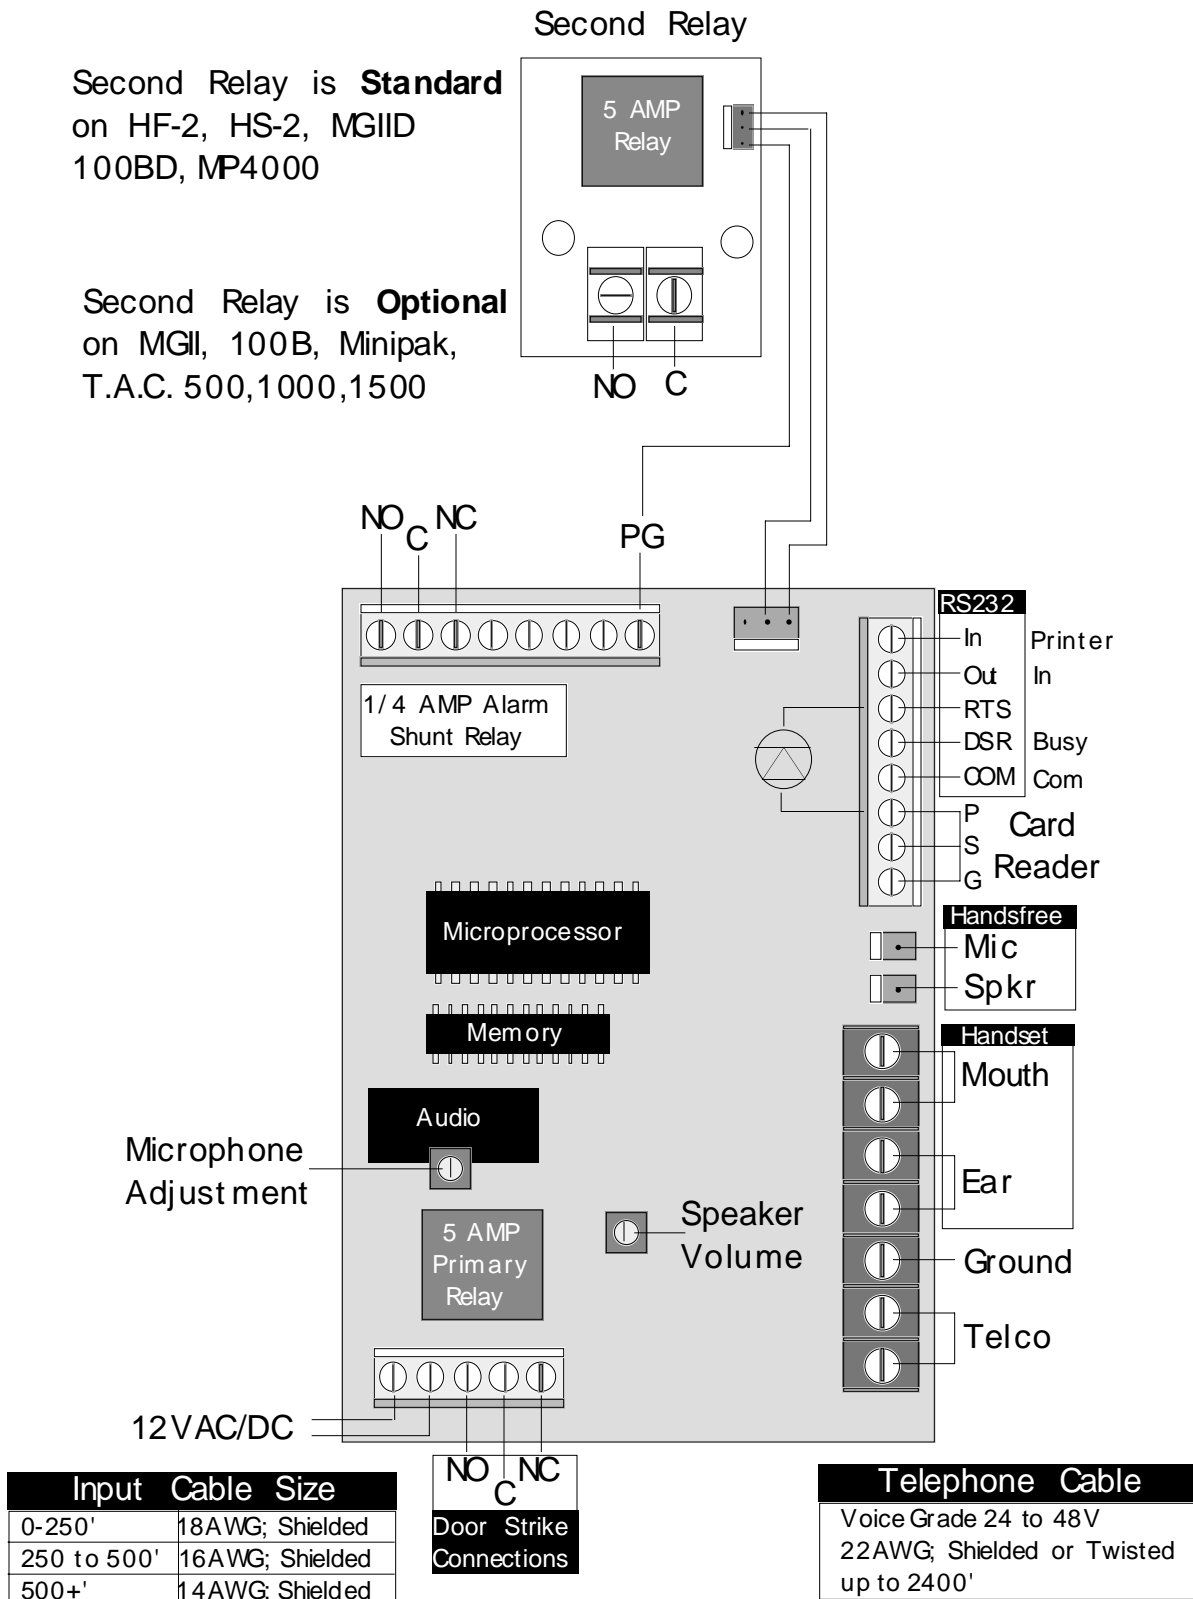

Figure 3
1. Use the wiring diagram (Fig. 3) for wire connection information.